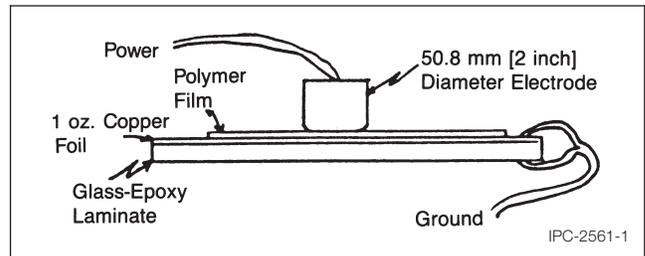

Figure 1
5.2.1 Clip the ground terminal of the tester over the thickness of the copper foil and substrate, being careful not to let the clip extend inward to the polymer coating (see Figure 1).